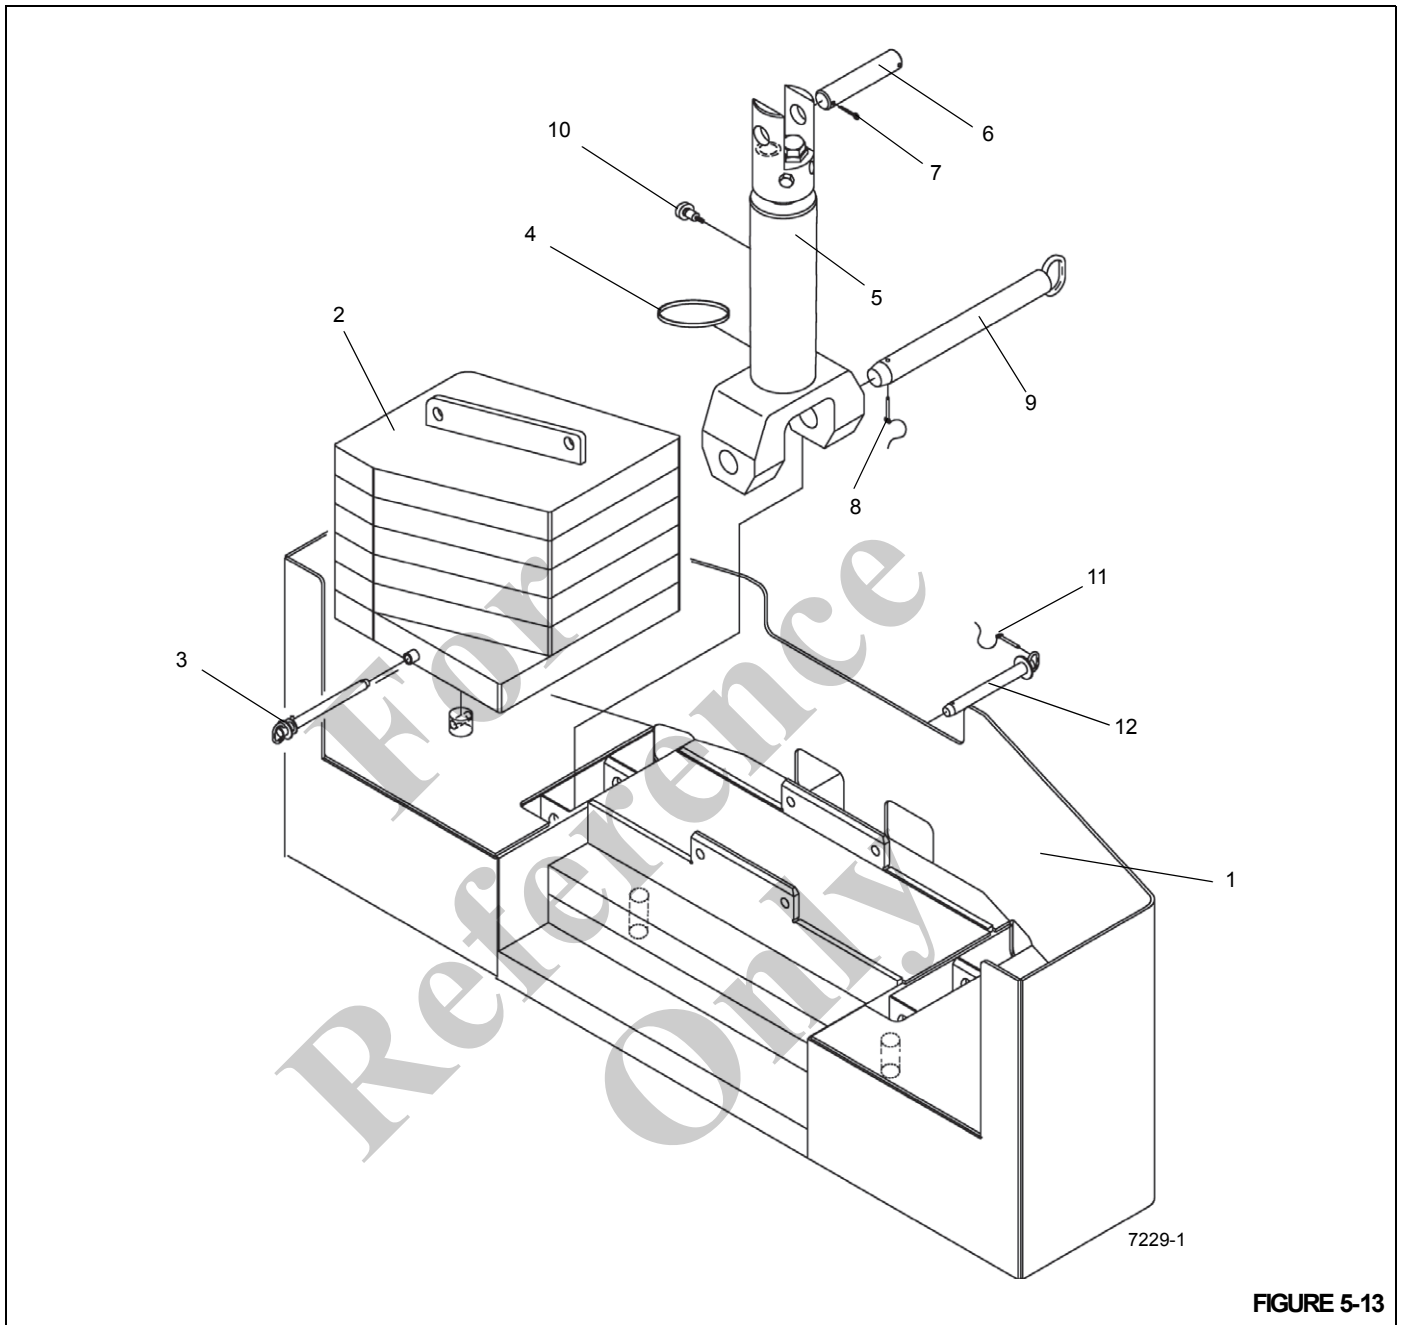
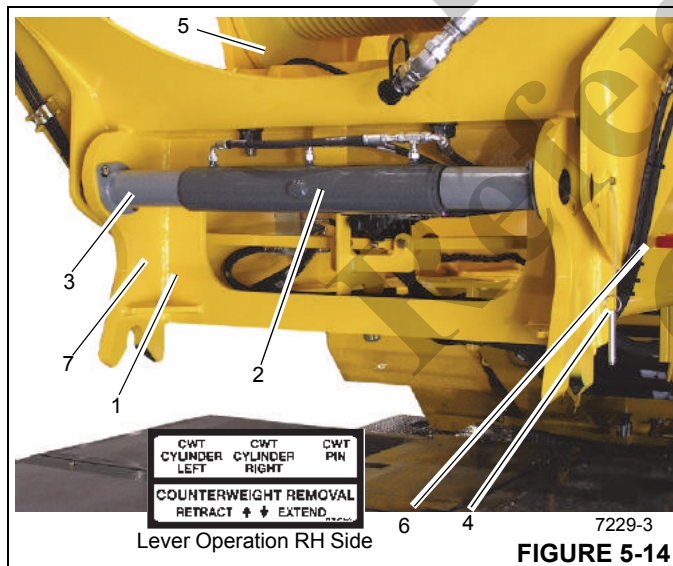

FIGURE 5-13
FIGURE 5-14
Adjustment of the counterweight stand (1) (Figure 5-12) supports is prohibited when the counterweight (1) (Figure 5-13) is resting on them.
- When installing counterweight (1) (Figure 5-13), make sure that both auxiliary hoist structure (7) (Figure 5-14) hydraulic mounting pins are fully extended and retainer pins are in place before counterweight is lifted.
- Before unpinning auxiliary hoist structure (7) (Figure 5-14), all counterweights must be fully lowered and firmly supported. Before lowering, make sure the auxiliary hoist structure (7) (Figure 5-14) is properly supported by counterweight removal cylinders (5) (Figure 5-13) and both hydraulic mounting pins are completely retracted.
6. Do not disconnect the lines to the counterweight removal cylinders (5) (Figure 5-13) at this time.
NOTE: It may be necessary to retract the counterweight removal cylinders (5) (Figure 5-13) to relieve weight from the counterweight to auxiliary hoist structure pins (12) (Figure 5-13).
7. Remove the hitch pins (11) (Figure 5-13) and the counterweight to hoist structure pins (12) (Figure 5-13). These are accessible through the holes in the back of the counterweight (1) (Figure 5-13).
8. Using the counterweight removal levers (6) (Figure 5-14), extend the counterweight removal cylinders (5) (Figure 5-13) and carefully lower the counterweight (1) (Figure 5-13) onto the counterweight supports.
9. Remove the detent pins (4) (Figure 5-14) to allow the pin removal cylinder (2) (Figure 5-14) to retract the pins on its rod ends.
10. Use the counterweight removal levers (6) (Figure 5-14) to retract the pins on the rod ends of the pin removal cylinder (2) (Figure 5-14) and unpin the auxiliary hoist structure (7) (Figure 5-14) from the turntable.
11. Retract the counterweight removal cylinders (5) (Figure 5-13) and carefully lower the auxiliary hoist structure (7) (Figure 5-14) onto the counterweight.
13. Secure the counterweight (1) (Figure 5-13) to the auxiliary hoist structure (7) (Figure 5-14) with the counterweight to hoist structure pins (12) (Figure 5-13) and hitch pins (11) (Figure 5-13).
Do not attempt to separate the auxiliary hoist structure (7) (Figure 5-14) from the counterweight (1) (Figure 5-13) while on the counterweight stand (1) (Figure 5-12). The auxiliary hoist structure (7) (Figure 5-14) may hit the counterweight (1) (Figure 5-13) and knock it off the stand.
On the heavy removable counterweight option (2) (Figure 5-13), do not use the lifting lugs on the heavy counterweights to lift the entire heavy counterweight and auxiliary hoist structure. The heavy counterweight lifting lugs are designed to lift the heavy removable counterweight only.
15. Attach an adequate lifting device with slings to the auxiliary hoist structure (7) (Figure 5-14). Use the crane to carefully transfer the auxiliary hoist structure (7) (Figure 5-14) and counterweight (1) (Figure 5-13) to the ground or suitable transport vehicle.
NOTE: Step 16 applies to the heavy removable counterweight (2) (Figure 5-13).
16. If desired, lessen the weight on the counterweight by removing the two heavy counterweight weldments (2) (Figure 5-13). To remove the weldments, attach an adequate lifting device with slings attached to the lifting lugs. Free the weldments from the counterweight by removing the pins. Using the lifting device, remove the weldments.
Assemble the standard removable counterweight (1) (Figure 5-13) and auxiliary hoist structure (7) (Figure 5-14) on the ground or on a suitable transport vehicle. Do not attempt to assemble on the counterweight stand. The auxiliary hoist structure may hit the counterweight and knock it off the stand.
Assemble the heavy removable counterweight (2) (Figure 5-13) and auxiliary hoist structure (7) (Figure 5-14) on the ground or on a suitable transport vehicle. Do not attempt to assemble on the counterweight stand (1) (Figure 5-12). The auxiliary hoist structure (7) (Figure 5-14) may hit the counterweight and knock it off the stand.
The heavy removable counterweight assembly (2) (Figure 5-13) must be installed with both heavy counterweights. Using only one heavy counterweight may cause the crane to become unstable.
NOTE: Step number 3 applies to the heavy removable counterweight (2) (Figure 5-13).
3. Attach an adequate lifting device with slings to each heavy counterweight weldment's lifting lugs. Using the lifting device, carefully install the two heavy counterweight weldments (2) (Figure 5-13) in place on the counterweight auxiliary hoist structure (7) (Figure 5-14). Pin the counterweight weldments in place with the pins.
4. Using an adequate lifting device with slings attached to the auxiliary hoist structure (7) (Figure 5-14), carefully place the auxiliary hoist structure (7) (Figure 5-14) onto the counterweight (1) (Figure 5-13).
5. Secure the counterweight (1) (Figure 5-13) to the counterweight removal cylinders (5) (Figure 5-13) with the cylinder to counterweight pins (9) (Figure 5-13) and hitch pins (8) (Figure 5-13). Secure the counterweight (1) (Figure 5-13) to the auxiliary hoist structure (7)
(Figure 5-14) with the counterweight to hoist structure pins (12) (Figure 5-13) and hitch pins (11) (Figure 5-13).
10. Remove the hitch pins (8) (Figure 5-13) and the counterweight to hoist structure pins (9) (Figure 5-13) to free the auxiliary hoist structure (7) (Figure 5-13) from the counterweight (1) (Figure 5-13).
11. Using the counterweight levers (6) (Figure 5-14), fully extend the counterweight removal cylinders (5) (Figure 5-13) and carefully raise the auxiliary hoist structure (7) (Figure 5-14) to meet the mating plates on the turntable.
12. Use the pin control lever (6) (Figure 5-14) to extend the pins on the rod ends of the pin removal cylinder (5) (Figure 5-14) and pin the auxiliary hoist structure (7) (Figure 5-14) to the turntable.
13. Install the detent pins (4) (Figure 5-14) to secure the pins on the rod ends of the pin removal cylinder (2) (Figure 5-14) to keep the auxiliary hoist structure (7) (Figure 5-14) secured.
14. Retract the counterweight removal cylinders (5) (Figure 5-13) and carefully raise the counterweight (1) (Figure 5-13) to its installed (working) position.
15. Secure the counterweight (1) (Figure 5-13) to the auxiliary hoist structure (7) (Figure 5-14) with the counterweight-to-hoist structure pins (12) (Figure 5-13).